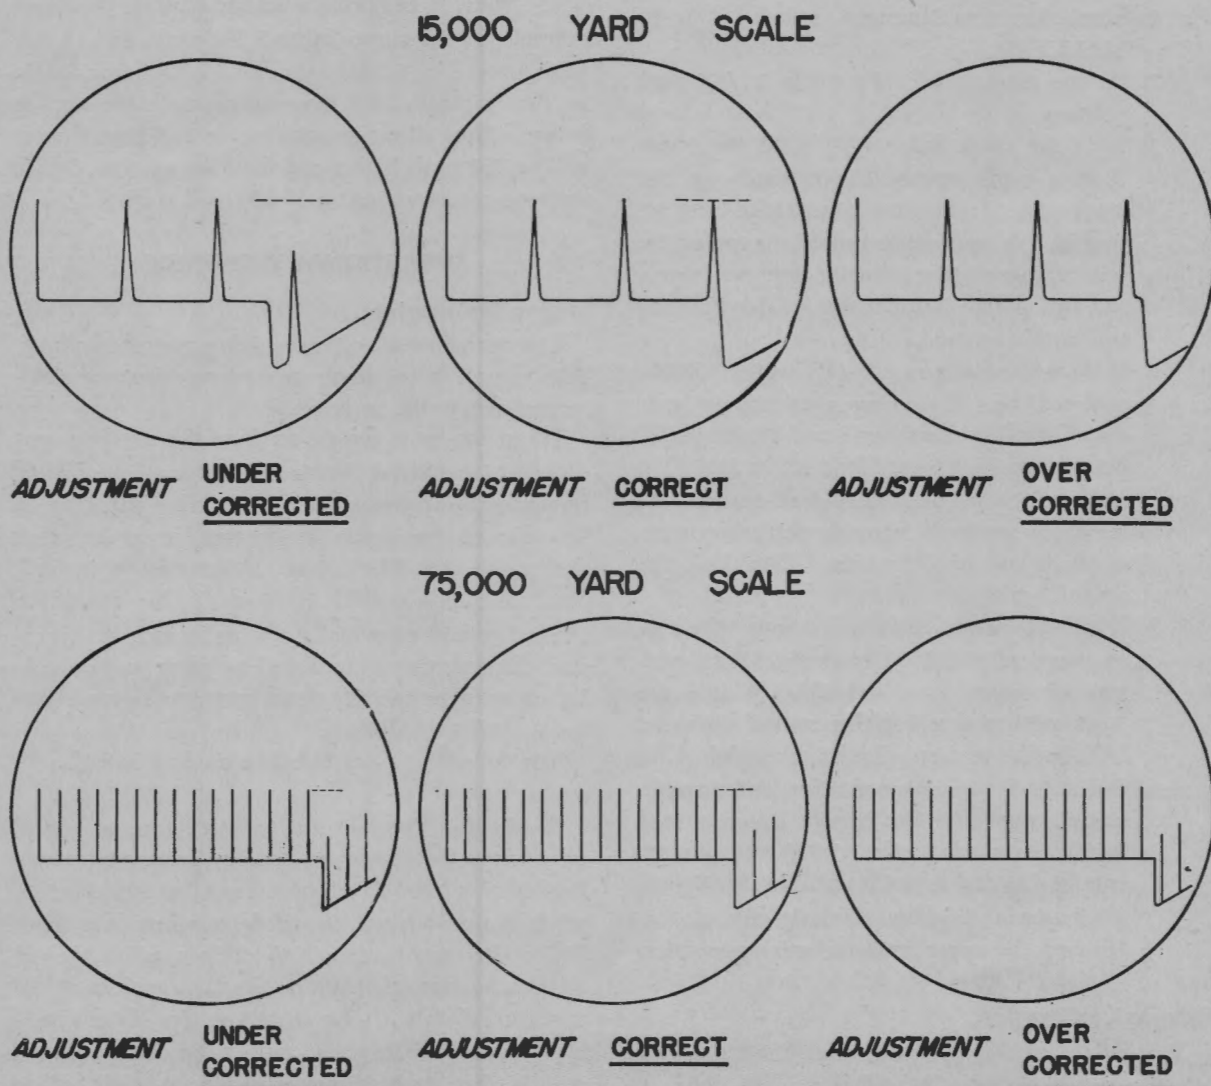

Figure 4 SG-2. Correct calibration of 15,000- and 75,000-yard range scales.
appear along the time base on the range scope. The operator now turns the range crank (N) until the 15,000-yard marker just begins to "pull down" into the step. The diagram in figure 4 SG-2 illustrates how the step should appear when adjusted to the correct position. If accurate, the range counters should read exactly 15,000 yards. Next, the step is lined up with the center of the 5,000-yard marker. Now, the counter should read exactly 5,000 yards.